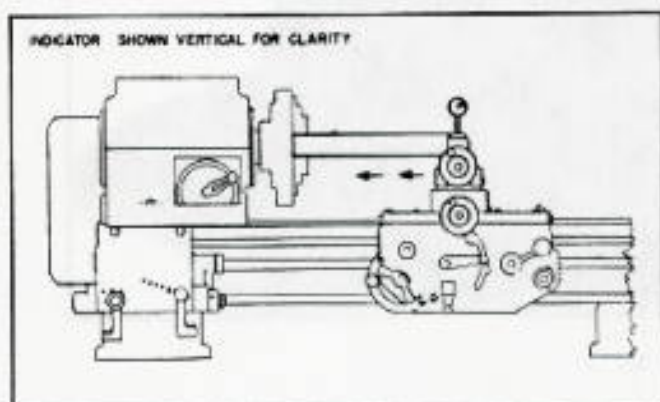

Fig. 14.
3. Mount the indicator on the tool post in a horizontal position, as shown in Fig. 14, and move the indicator 12" along the test bar by feeding the carriage. The total indicator reading should not exceed .0005.